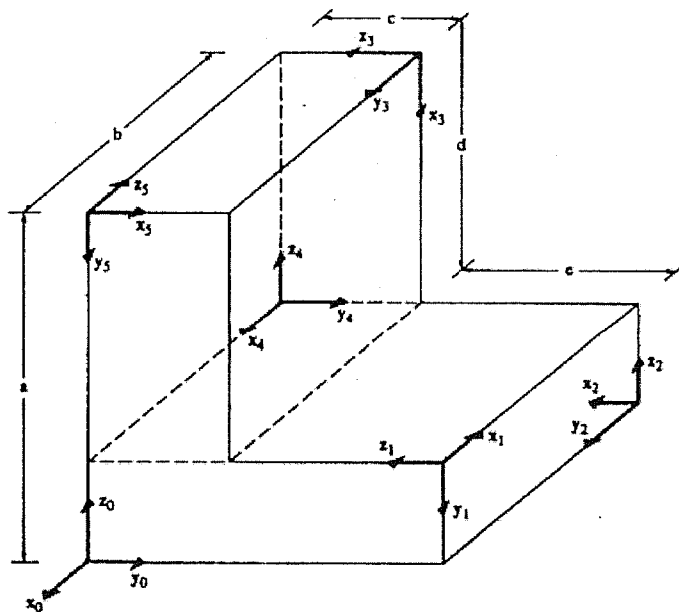

Figure 2
- b) For the Figure 2 is shown below, find the homogeneous transformation matrices ${}^{i-1}T_i$ and 0T_i for $i = 1, 2, 3, 4, 5$.